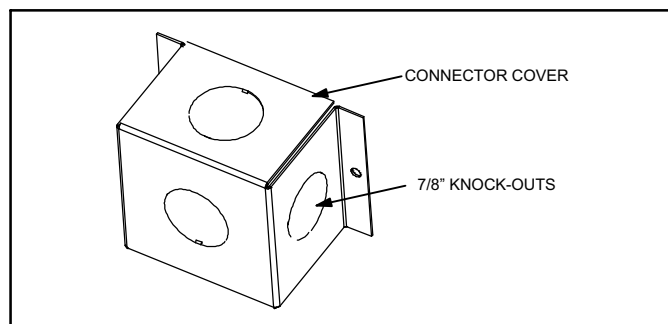

Figure 2. Knock-Out Locations
3. Select the desired 7/8" knockout location as illustrated in figure 2.